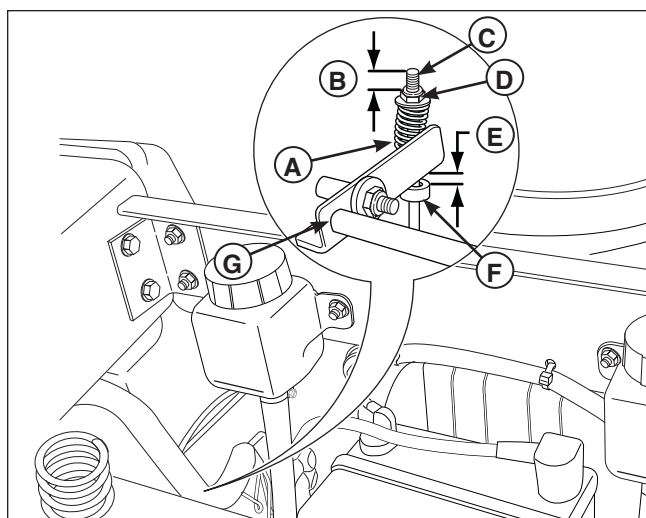

Figure 34. Parking Brake Adjustment
3. Measure the distance from the top of the brake spring rod (C, Figure 34) to the top of the lock nut (D) on both sides of the unit. The measurement should be .50" (1,27 cm). If not, adjust the locknut to achieve the measurement of .50" (1,27 cm).
4. Measure the distance between the bottom of the brake shaft weldment (G) and the top of the set collar (F). The measurement should be .375" (0,95 cm). If not, position the set collar until the measurement equals .375" (0,95 cm).